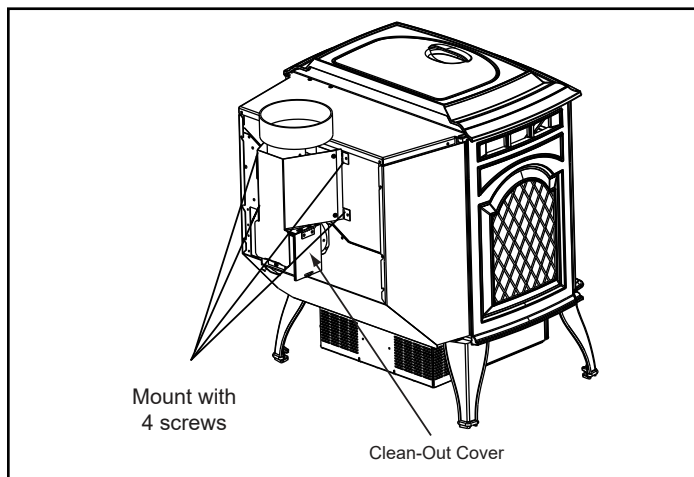

Figure 21.2
5. Drill 2 holes with #26 drill bit through the rear exhaust outlet using the 2 holes already in the short horizontal pipe in the top vent adapter as a guide. Install the 4 screws (**Figure 21.2**).